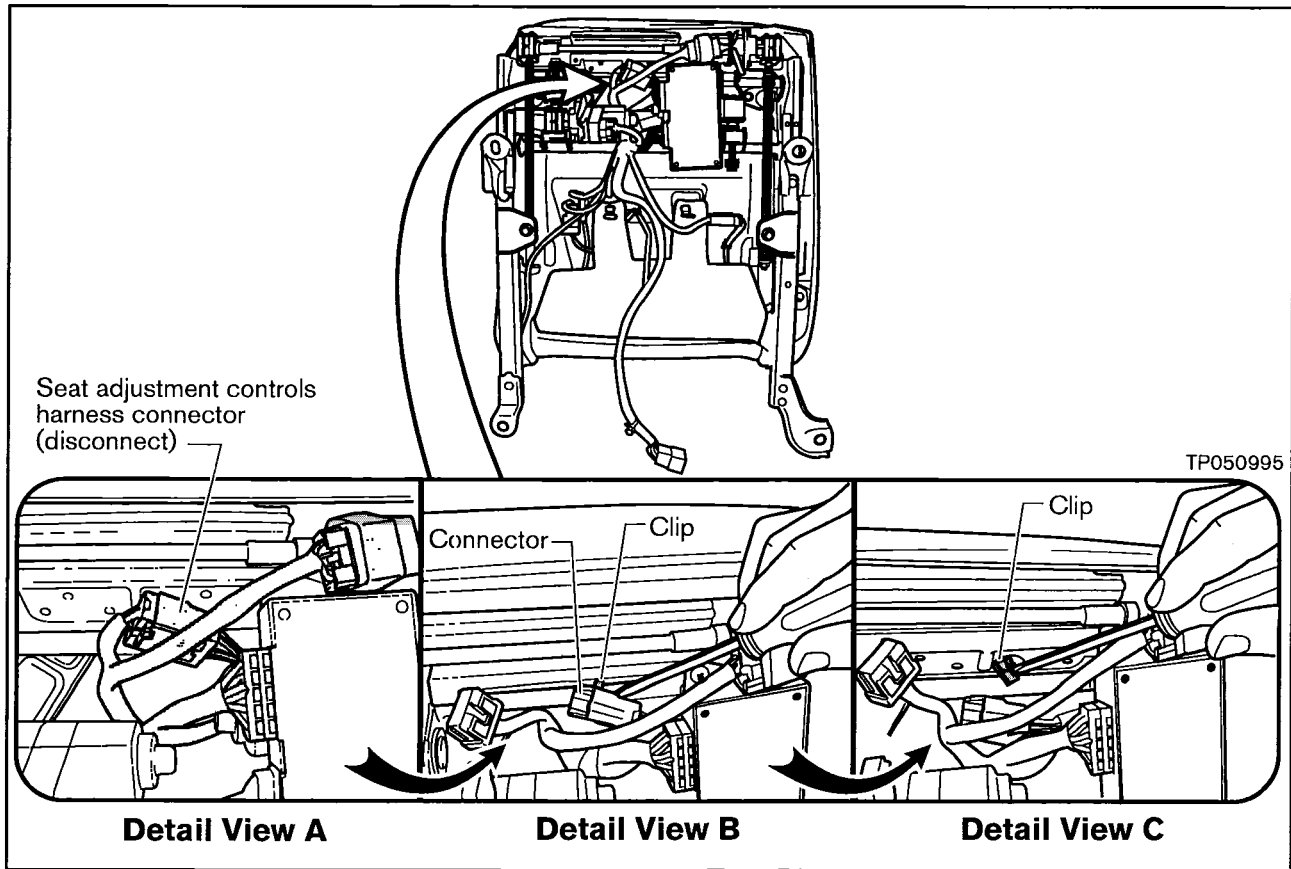

Figure 7
- a. First, disconnect the seat adjustment controls harness connector (see Figure 7, Detail View A).
- b. Second, pry the connector off of the clip that secures it to the metal seat pan (see Figure 7, Detail View B).
- c. Then, remove the clip from the metal seat pan (see Figure 7, Detail View C).